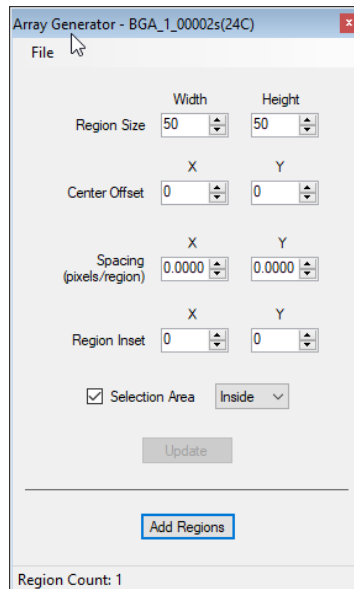

Figure 3.12 Mask Array Parameters
2. By default, a grid of mask regions appear on the phase image. Also, a box with various array parameter options appear (**Figure 3.12**). The **height** and **width** refer to the individual dimensions of a single mask region. The **center offset** is the distance of the center of the full array from the center of the image. The **spacing** controls how much space exists between each mask region. The **inset** refers to how much of the image is covered by the array (a larger inset reduces the total array size). Each option affects all ROIs in the same way.